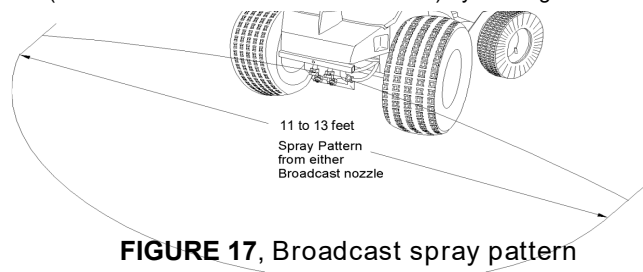

FIGURE 17, Broadcast spray pattern
With the **20 PSI** Pressure Unloader Valve installed at the factory, the sprayer has a **7-FOOT** effective pattern width and an **11 FEET** (3.4 meters) overall pattern width using a single front mounted broadcast nozzle, as shown in **FIGURE 17**. The spray distribution pattern allows the use of a **7-FOOT** (2.1 meter) overlap spreader travel pattern to achieve an even and complete coverage of the sprayed product on the entire turf area by overlapping the edge of the last spray pattern approximately **2 FEET** (.61 meter). Using a trim nozzle provides an even finished distribution over a spray pattern of **3-FOET** (.91 meters) on the surface being treated.
- Spray for **15 SECONDS** until the spray pattern is visible on the surface. The spray pattern should resemble the **11-14 FEET** spray pattern in **FIGURE 17**. Adjust as follows: